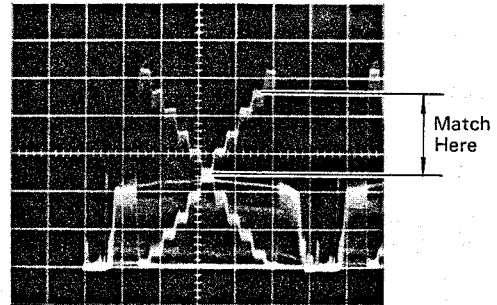

Fig. 6-4-35
- Adjust BLUE TRACKING-2 VR314 so that the B signal matches the YL signal in the 8th~9th step of gray scale waveform. (Fig. 6-4-35)